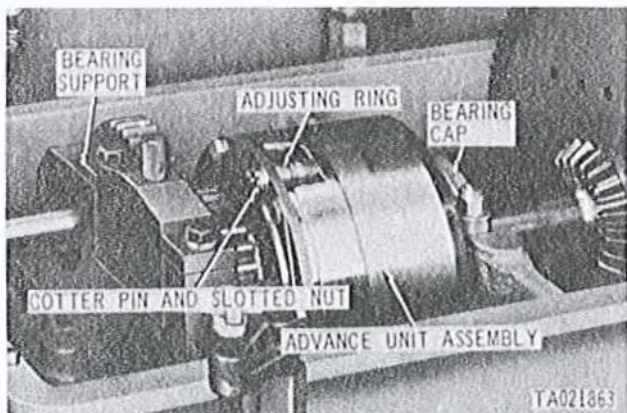

Figure 3-251. Fuel injection pump advance assembly mounting points.
(6) Turn the electronic counter switch, (3), "ON". The electronic components in the counter will reach operating temperature by the time the test is begun.
(7) Loosen fasteners and remove fuel injection pump drive housing cover from top of test stand. Remove the two bearing caps (fig. 3-251) and intermediate bearing support from the mounting fixture.
(16) Loosen fasteners and remove cover. Remove bearing caps and remove unit from bench. Remove oil transfer shaft. Place injection advance assembly on oil drain tray with small gear end up to drain and cool. Place advance assembly in a clean dirt free container, preferable a polyethelene bag, for storage.
(17) Repeats (9) through (14) above to check previous readings. If advance assembly fails to pass the test, it must be adjusted. Note whether advance assembly advances too soon or too late. Either condition can normally be corrected by rotating the advance flywheel adjusting ring (fig. 3-251).
to permit adjusting ring rotation (fig. 3-251).
(20) Rotate the adjusting ring (fig. 3-251) 1/16-inch toward the rear of the bench (retard position) if the advance assembly advanced too soon. Move the adjusting ring 1/16-inch in the opposite direction (advance position) toward operator, if the advance assembly advanced too late. Tighten the slotted nuts, install cover and repeat (3) through (14), above. When advance readings are within the prescribed limits, the advance assembly may be removed from the bench as outlined in (16) above. Secure the adjusting ring slotted nuts with cotter pins.